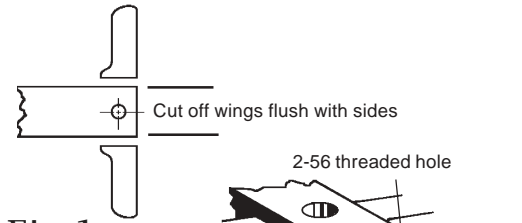

Fig.1
3. Cut off wings on each side of bracket flush with sides, see Fig.1. You may wish to remove wheel assembly under bracket end to make cutting easier.